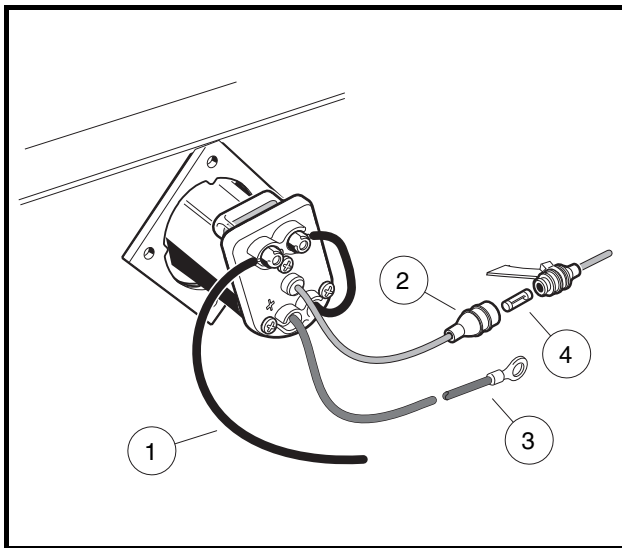

Figure 4-5 Charger Receptacle
7. Remove all wires from the terminal block (1) located on the driver side of the center body assembly. **See following NOTE.**
9. Remove the lock nut that connects the black wire (1) to the charger receptacle (**Figure 4-5, Page 4-5**).
10. Disconnect the yellow fuse holder (2) from the wire harness.
11. Remove the 10-gauge red wire (3) from the large solenoid post.
4. Tighten the nut securing the 10-gauge black wire (1) to the charger receptacle to 23 in-lb (2.6 N·m) (**Figure 4-5, Page 4-5**).
8. Remove the lock nut that connects the black wire (1) to the charger receptacle (**Figure 4-5, Page 4-5**).
9. Disconnect the yellow fuse holder (2) from the wire harness.
10. Remove the 10-gauge red wire (3) from the positive post of battery no. 1.